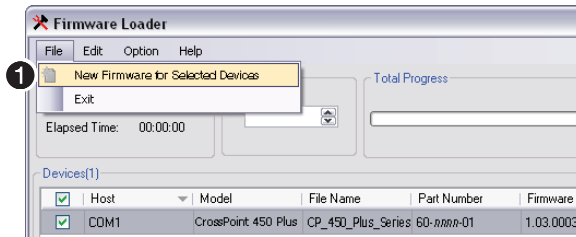
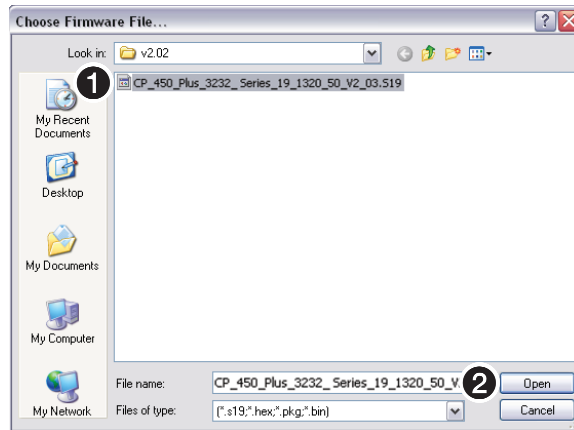
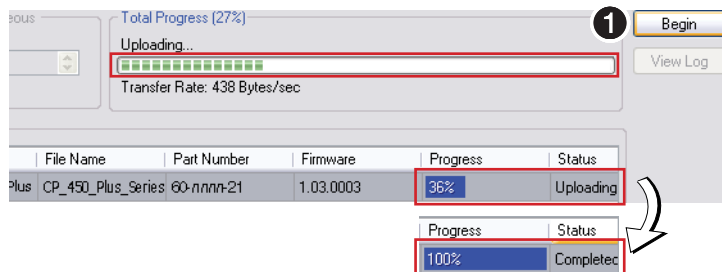

Figure 73. Extron Firmware Loader Window
Figure 74. Choose Firmware File Window
Figure 75. Firmware Loader Screen
- **If the switcher is connected via either serial port**, the Extron Firmware Loader window appears (see **figure 73** and **Serial-port-connected firmware upload** on the next page).
1. Select the matrix switcher and click **File > New Firmware for Selected Devices** (see figure 73, 1). The Choose Firmware File dialog box opens (see figure 74).
2. Navigate to and select the new firmware file (see figure 74, 1).
3. Click **Open** (2). The Choose Firmware File window closes.
4. In the Firmware Loader window, click **Begin** (see figure 75, 1).